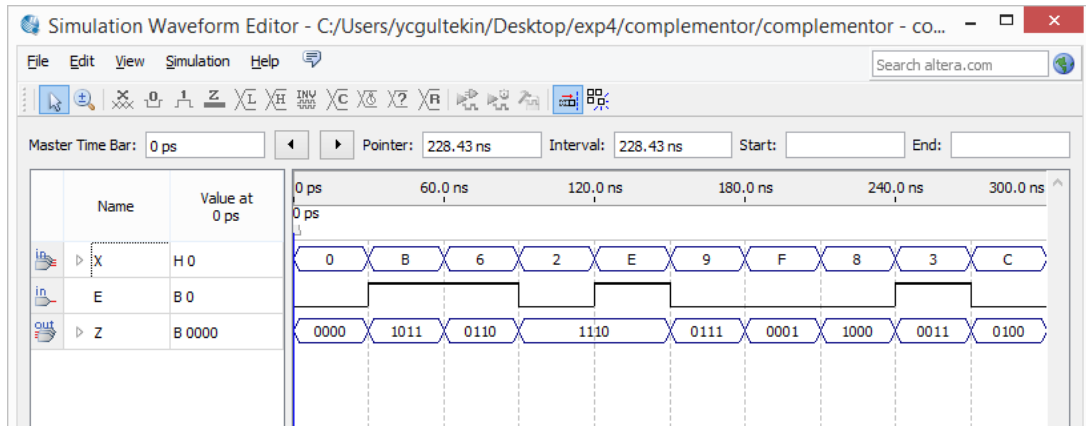

Figure 4.18 One way to see simulation results
38. You will see the simulation results of your design according to the inputs that you give. Check the output for different input combinations. Being sure the design is working properly, close Waveform Editor Window. Your functional simulation results will hopefully be seen like in Figure 4.18.